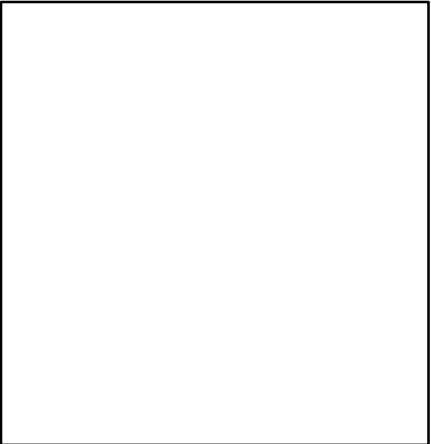

Figure 2-3. Power Wiring for the SMC20
**Recommendation:** Use 14 to 16 AWG wire. Figure 2-3 shows the connection.